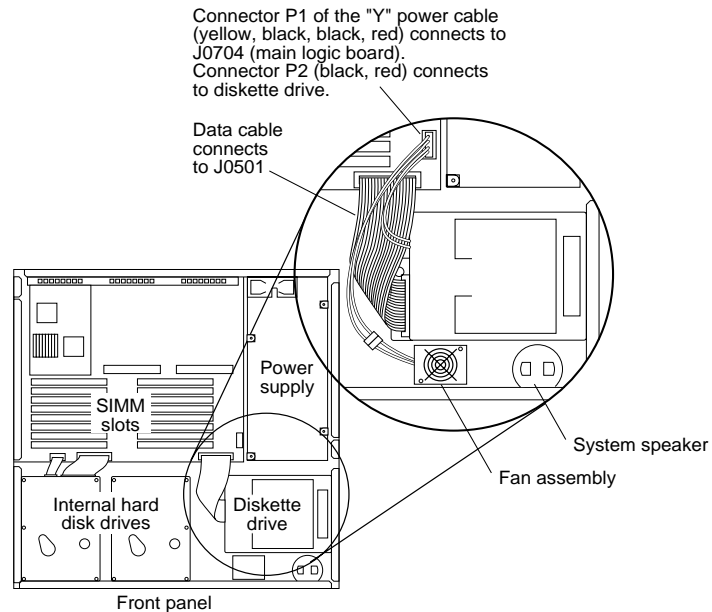

Figure 4-17 Connecting Power and Data Cables to the Diskette Drive
6. **Disconnect the "Y" power cable from the main logic board and the fan assembly (see Figure 4-17).**
- 2. Disconnect the data and "Y" power cable from the drive (see Figure 4-17).**
5. Connect the data and "Y" power cables to the replacement drive (see Figure 4-17).
- 3. Connect the data and "Y" power cables to the main logic board (see Figure 4-17).**
- 5. Connect the "Y" power cable to the fan assembly (see Figure 4-17).**